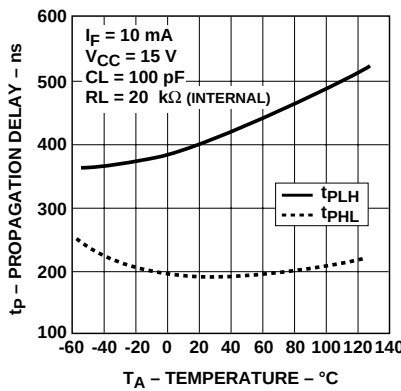

Figure 8. Propagation delay with internal $20\text{ k}\Omega$ R_L vs. temperature
- Due to the tolerance of the internal resistor, and since propagation delay is dependent on the load resistor value, performance can be improved by using an external $20\text{ k}\Omega$ 1% load resistor. For more information on how propagation delay varies with load resistance, see Figure 8.